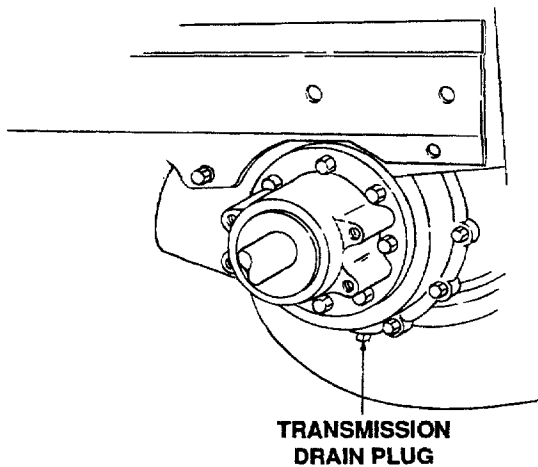

Figure 22
2. Clean the area around the transmission drain plug to prevent debris from entering the transmission case. Remove the drain plug and allow the transmission oil to drain into a clean container having a capacity of more than 6 quarts. Replace drain plug. (Refer to Figure 22.)